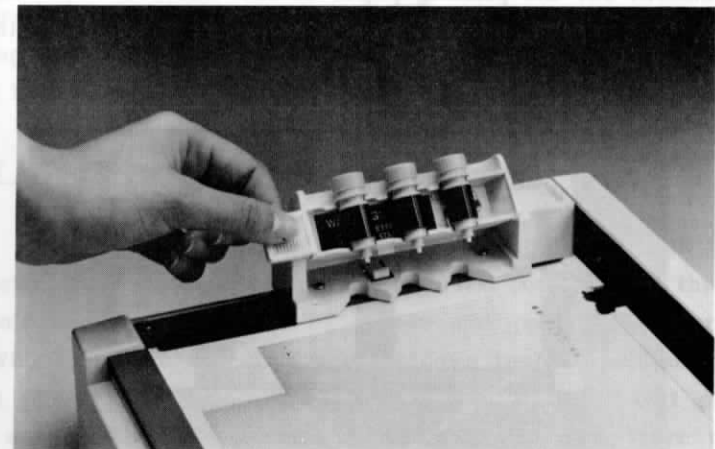

Fig 1
- Lift the pen station lever until it is locked (about 60 degrees, see Fig. 1).